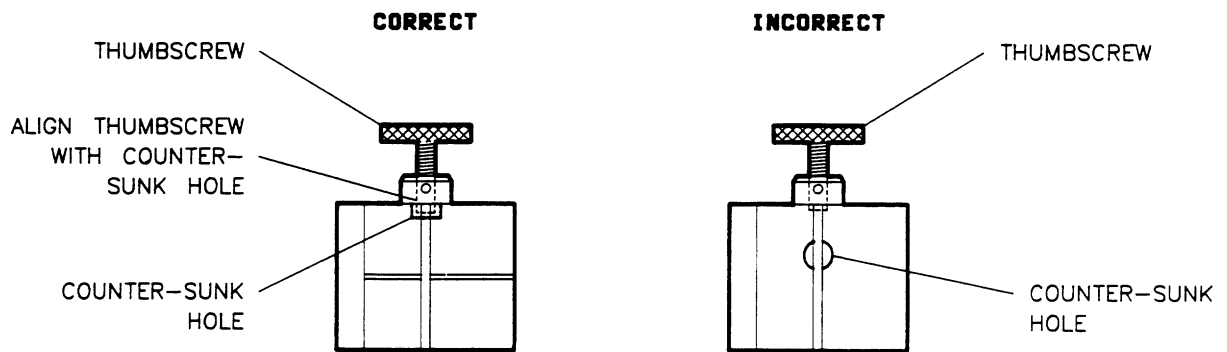

Figure 3-9 *Aligning the Thumbscrew with the Counter-Bored Hole*
5. Make sure that the thumbscrew is aligned with the counter-sunk hole in the clamp body. Push the clamp toward the test set front panel and then tighten the thumbscrew with your fingers. The cable cannot be damaged by tightening the thumbscrew too tightly. Refer to Figure 3-9.